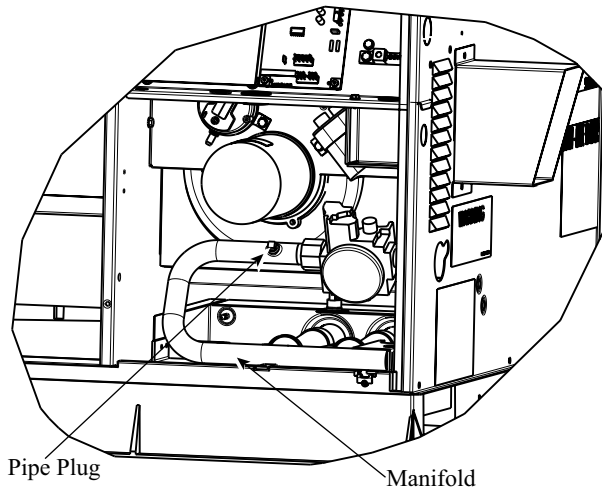

Fig. 16 – Burner Assembly
2. Remove pipe plug on manifold (See Fig. 16) and connect manometer. Turn on gas supply to unit.
4. Turn off gas supply to unit. Remove manometer from pressure tap and replace pipe plug on gas valve. (See Fig. 16.) Turn on gas to unit and check for leaks.